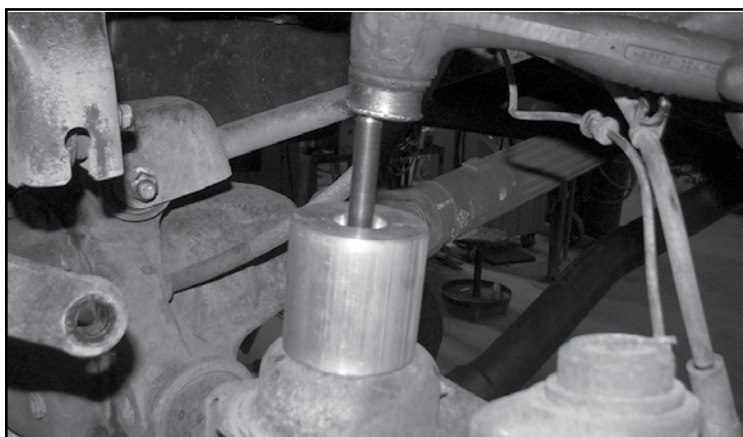

FIGURE 8 - STEP 8
8. Place the new FT50492 (Front bumpstop) onto the factory bumpstop pad. Using a center punch mark for drilling. **SEE FIGURE 8**